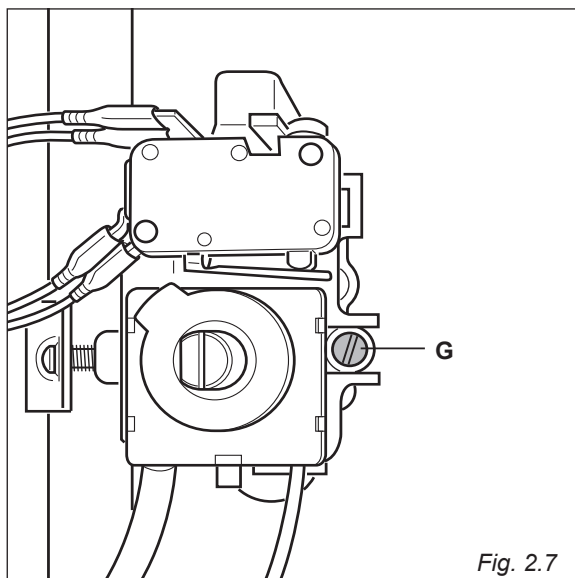

Fig. 2.7
- Remove the knob and unscrew the by-pass screw "G" (fig. 2.7) about three times by passing a small flat screwdriver (Ø 3 mm blade, 100 mm length) through the control panel opening.
- After having removed the knob again and being very careful not to turn the thermostat rod, slowly screw the by-pass screws "G" (fig. 2.7) until you obtain a flame of 3-4 mm in height.